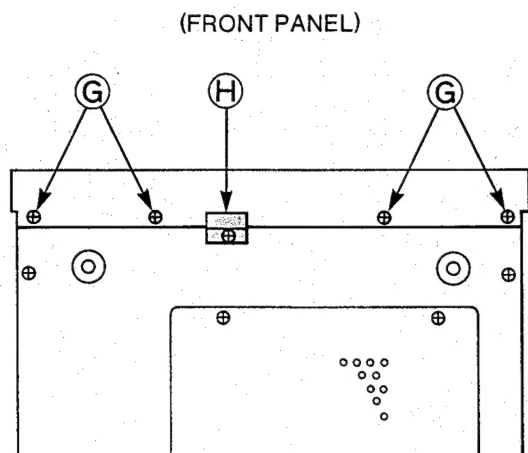

Fig. 4
4. Turn the unit upside down. Then, remove four screws (G) and the Metal Mount (H) fastening the Front Panel. (Fig. 4)